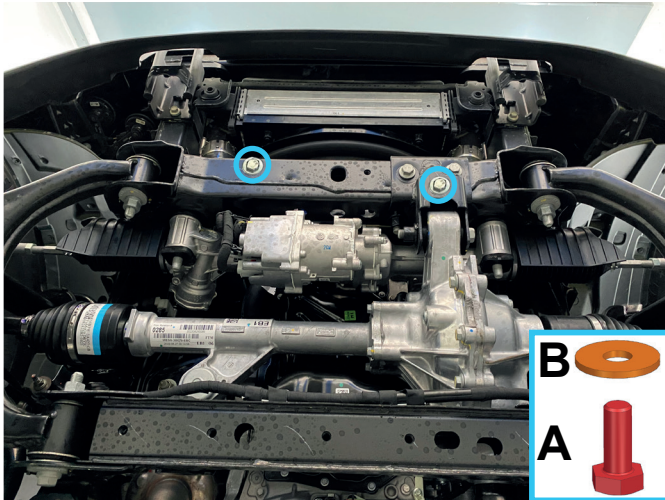

Fig. 1
1. Attach bolts M10x30 (item A) and washers 10 (item B), as shown in fig. 1.